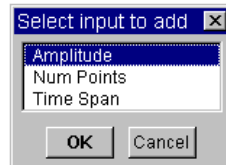

Figure 1-37. Example: Adding Input Terminals
1. Click on the object menu or press **Ctrl+A** with the mouse pointer in the “terminal area” at the left side of the *Noise Generator*. The dialog box appears for you to add an input, as shown in Figure 1-37.